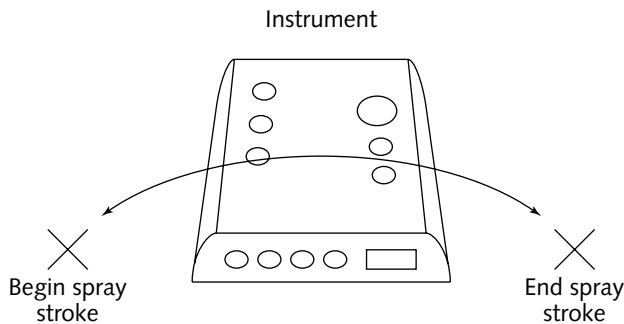

FIGURE 12-5: Begin paint spray before the instrument; end after.
6. Now, this is important. Your sweeps of the spray paint can, along with actual spraying, must begin *before* the workpiece and end *after* the workpiece. This will result in overspray at both the beginning and end of each stroke (see Figure 12-5).